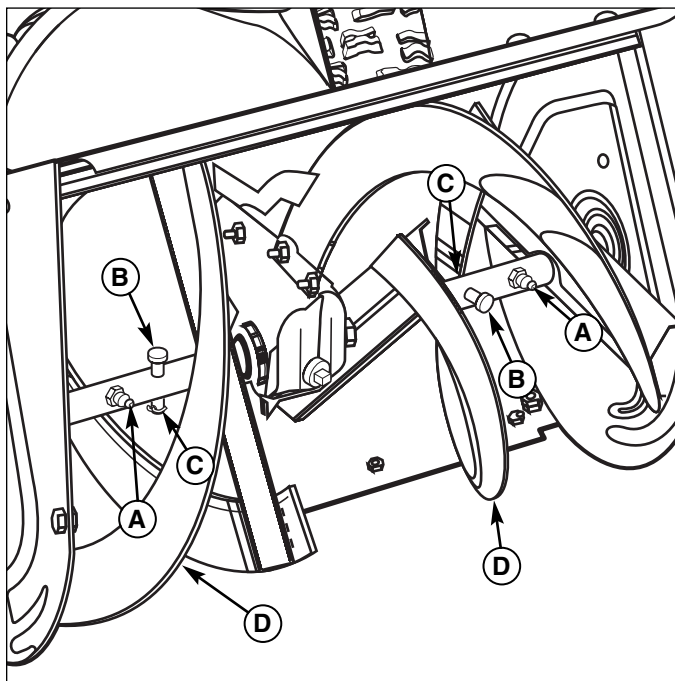

Figure 14. Lubricating the Auger Shaft Assembly
1. Remove cotter pin (C, Figure 14) and shear pin (B).
2. Use a grease gun and squirt several shots of grease into grease fitting (A).
3. Rotate auger assembly (D) several times to distribute the grease evenly. Repeat step 2.
4. Reinstall shear pin (B) and cotter pin (C).